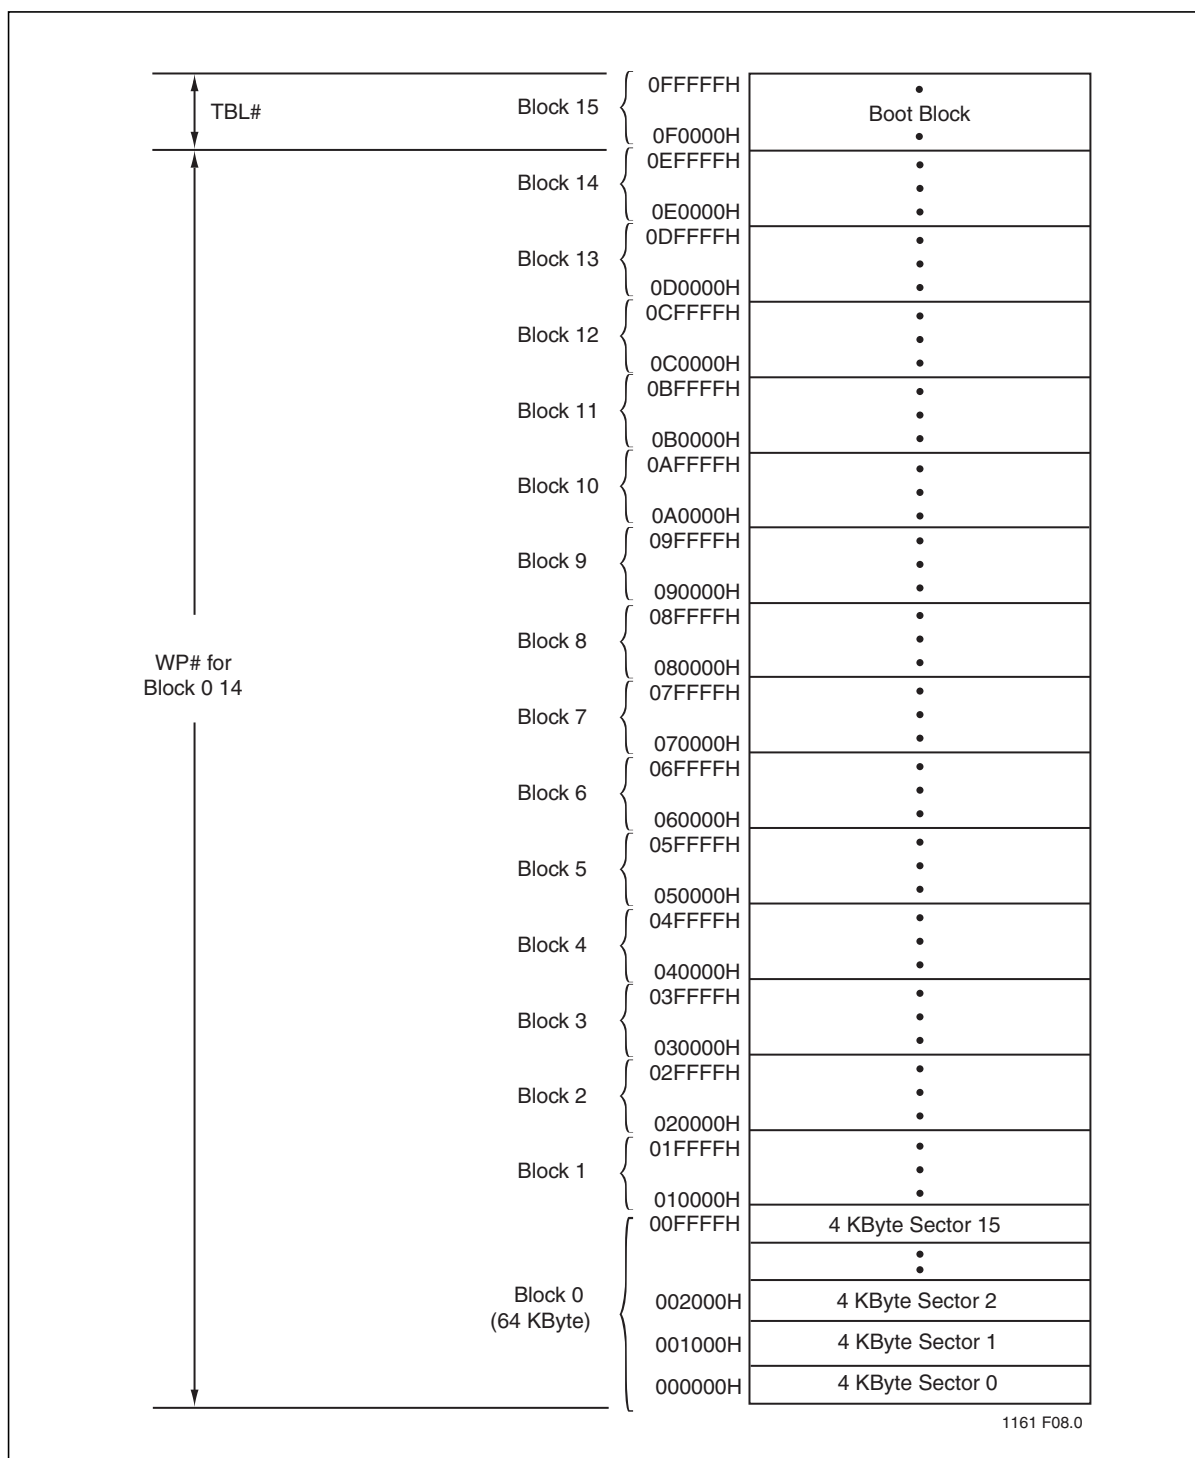

Figure 5: Device Memory Map for SST49LF008A
The SST49LF008A flash memory devices can operate in two distinct interface modes: the Firmware Hub Interface (FWH) mode and the Parallel Programming (PP) mode. The IC (Interface Configuration pin) is used to set the interface mode selection. If the IC pin is set to logic High, the device is in PP mode; while if the IC pin is set Low, the device is in the FWH mode. The IC selection pin must be configured prior to device operation. The IC pin is internally pulled down if the pin is not connected. In FWH mode, the device is configured to interface with its host using Intel's Firmware Hub proprietary protocol. Communication between Host and the SST49LF008A occurs via the 4-bit I/O communication signals, FWH [3:0] and the FWH4. In PP mode, the device is programmed via an 11-bit address and an 8-bit data I/O parallel signals. The address inputs are multiplexed in row and column selected by control signal R/C# pin. The column addresses are mapped to the higher internal addresses, and the row addresses are mapped to the lower internal addresses. See the Device Memory Map in Figure 5 for address assignments.